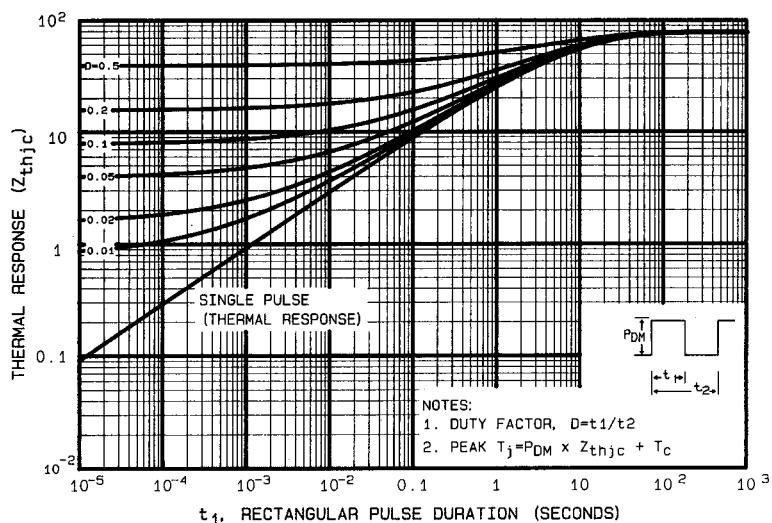

Fig. 23 — Maximum Effective Transient Thermal Impedance, Junction-to-Ambient Vs. Pulse Duration
① Repetitive Rating: Pulse width limited by maximum junction temperature (see figure 23). Refer to current HEXFET reliability report.
② $I_{SD} \leq -0.75\text{A}$, $dI/dt \leq -75\text{ A}/\mu\text{s}$